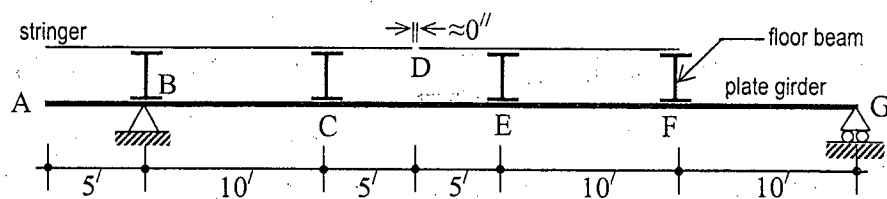

Figure 1
- For the plate girder bridge as shown in Figure 1, draw influence lines for all floor beam reactions ( $FBR_B$ ,  $FBR_C$ ,  $FBR_E$  and  $FBR_F$ ), main girder reactions ( $R_B$  and  $R_G$ ), shear in panel 'CE' ( $V_{CE}$ ) and moment at 'E' ( $M_E$ ) for the plate girder. Unit load moves over the stringer from 'A' to 'F'.